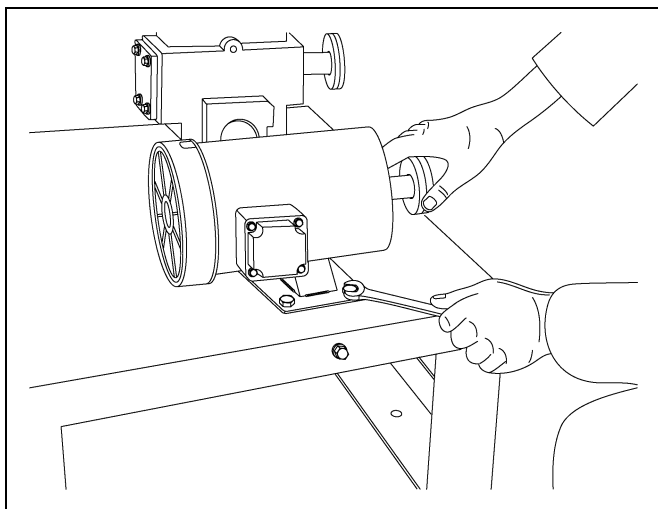

Figure 7J
8. Using four (4) 5/16" x 3/4" flange head bolts, mount the motor to the airlock deck. Place the specified pulley on to the motor shaft and align to pulley on gearbox. (See Figure 7J.)